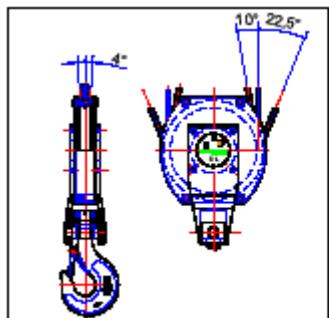
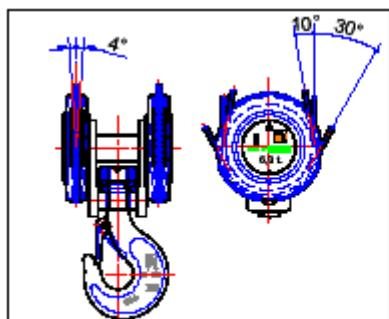

Fig. 4
Fig. 5
- The opening for the rope passage (in the protective case) enables the lifting ropes to be inclined during the raising or lowering of the block to a maximum of 4° as seen from the front, and between 10° and 22,5° as seen from the side for the CUB (fig.4) and between 10° and 30° for the CHA and CHB (fig. 5).